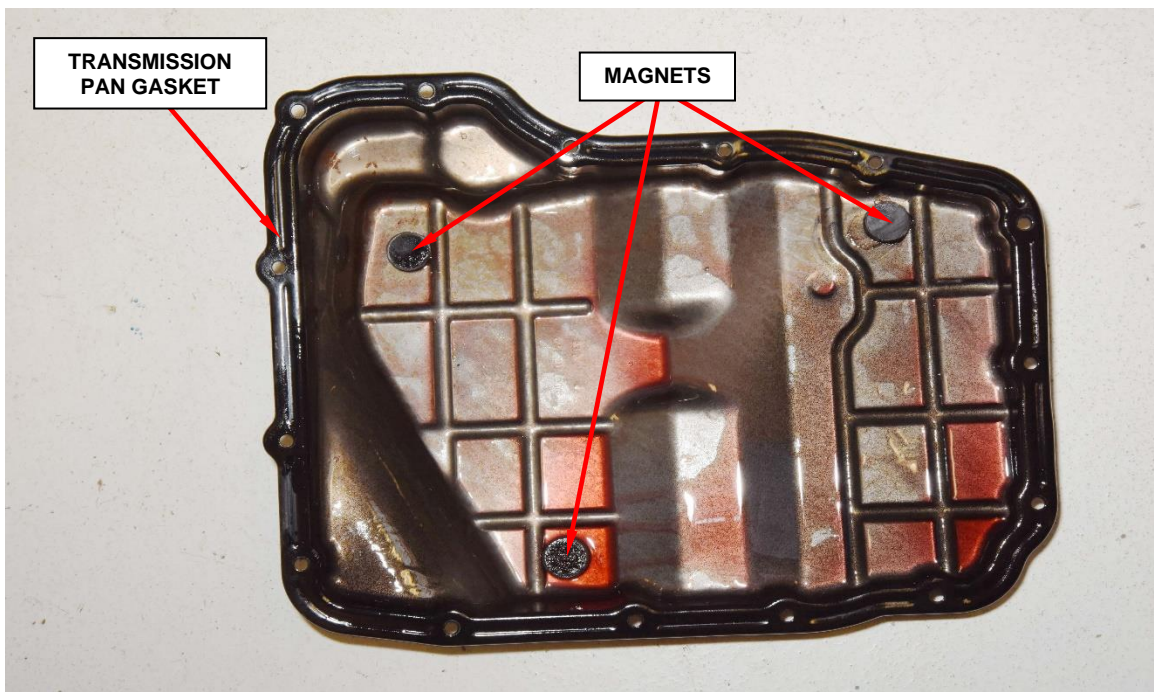

Figure 1 – Transmission Pan
7. Remove the transmission pan gasket and **DISCARD If the vehicle has over 501 miles or vehicle is over 6 months old from vehicle-built date.** (Figure 1).
23. Using mineral spirits or equivalent clean the transmission pan and the 3 magnets, assure that all the mineral spirits or equivalent have been wiped out and allowed to dry before installing the transmission pan (Figure 1).
24. Install a **NEW** transmission oil pan gasket **ONLY** on vehicles that have **over 501 miles or vehicle is over 6 months old from vehicle built date.** (Figure 1).